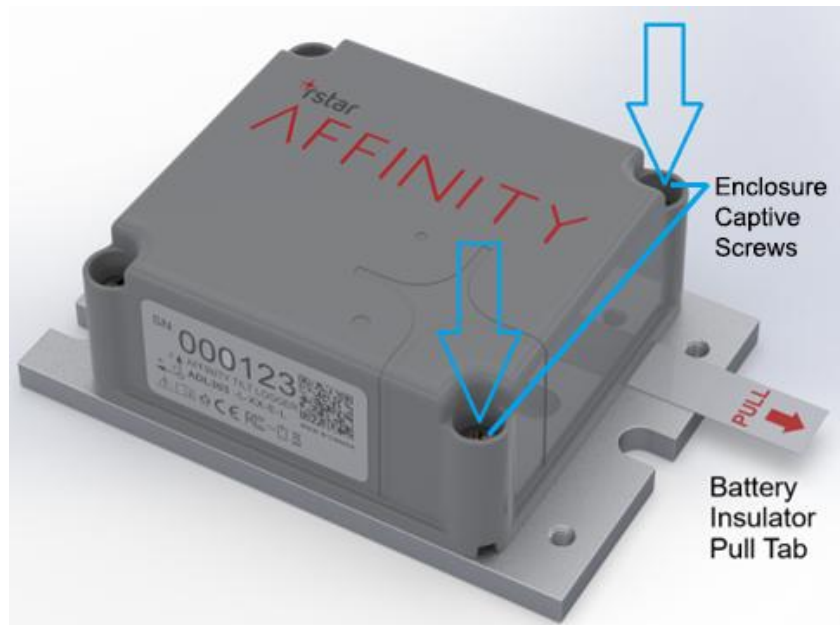

Figure 3: Removing the Battery Insulator Pull Tab
Refer to Figure 3 and complete the following steps:
1. In a dry environment, loosen the 2 enclosure captive screws closest to the battery insulator pull tab by turning the screws counterclockwise 1 to 2 turns using a #2 Phillips driver. The screws are marked with blue arrows as shown in Figure 3.